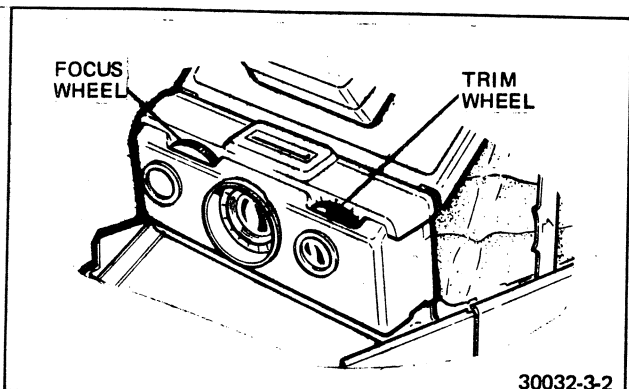

FIGURE 3-2 FOCUS & TRIM CONTROL WHEELS
2. Rotate the focusing wheel and trim control wheel (Figure 3-2) throughout the ranges to detect any evidence of binding or interference.